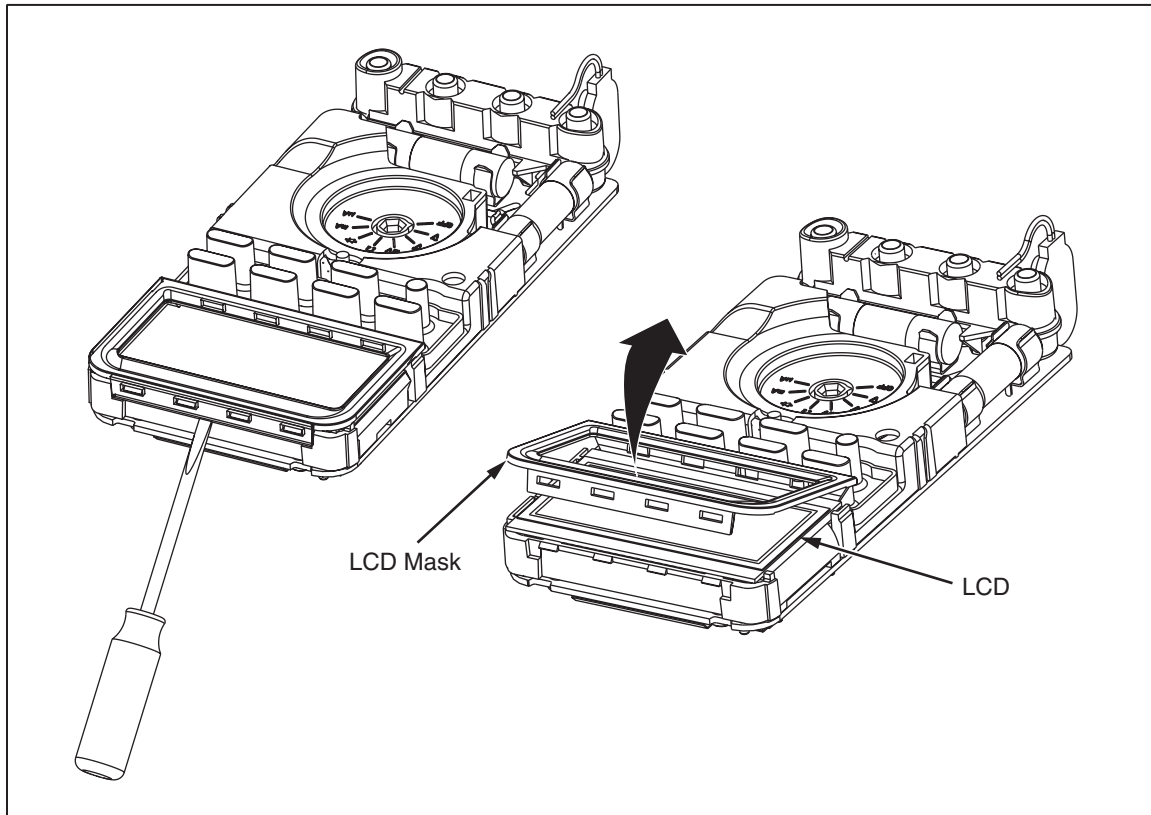

Figure 2. Removing LCD Mask to Access LCD
3. To access the LCD, unsnap the LCD mask using a small flat-blade screwdriver. The LCD may now be removed. Refer to Figure 2.